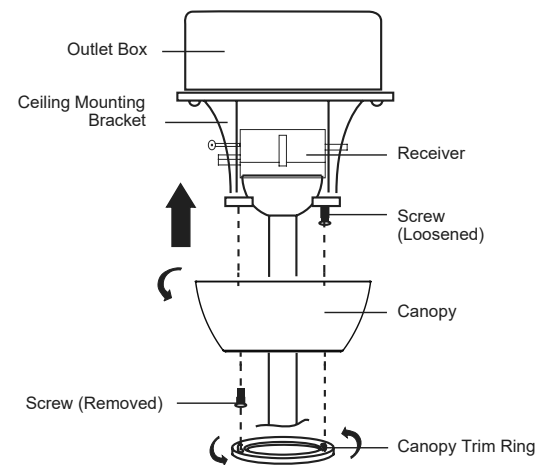

Fig. 12
**Step 3.** Carefully raise the canopy up to the ceiling mounting bracket and place the keyhole slot in the canopy over the screw head on the ceiling mounting bracket. Rotate the canopy until it locks in place against the screw at the narrow section of the keyhole slot. (Fig. 12)
**NOTE:** Adjust the screws as necessary until the canopy and canopy trim ring are snug. (Fig. 12)